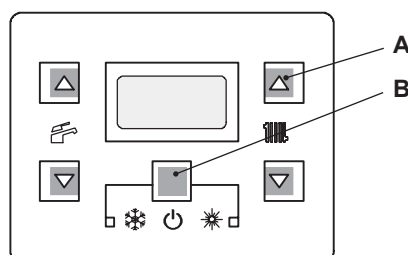

Figure 9.9
- 4 To modify the parameter press contemporary the keys ("A - B" Figure 9.9).